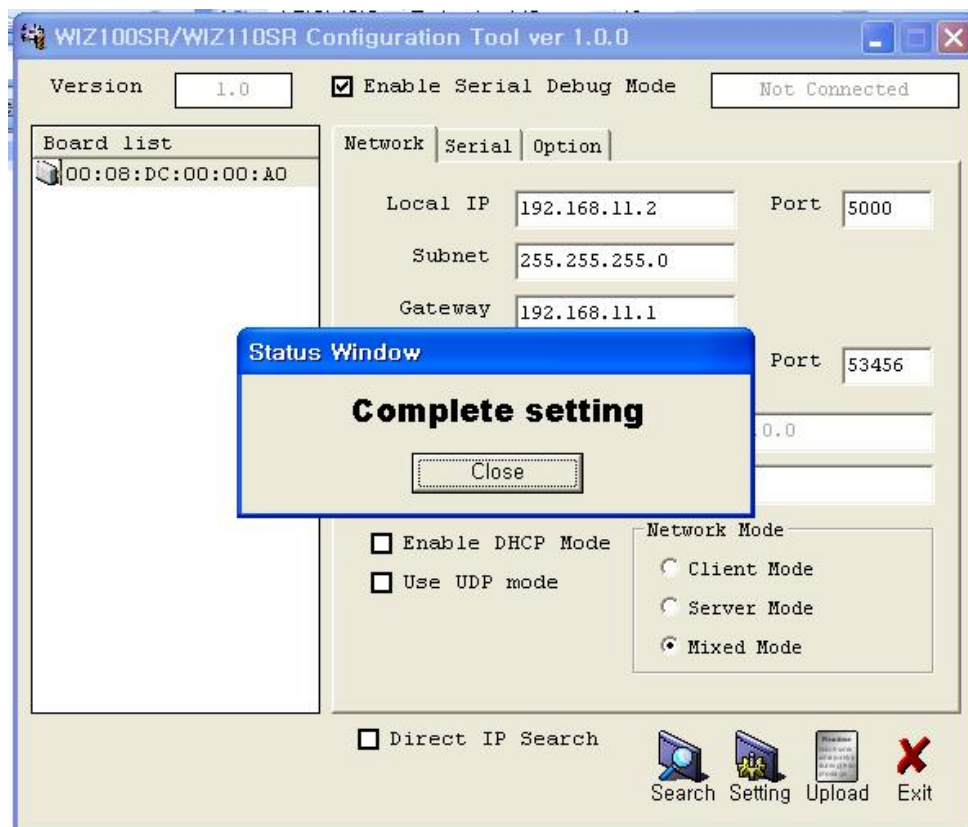

Fig 18 Result Window after Running "Setting"
- ① Modules are searched by click search button of the Configuration Tool.
- ② Select the board to be configured and change the value. To apply the changed value, click Setting button.
- ③ If changed value is successfully applied, the "Complete setting" message is displayed as shown in Fig 18